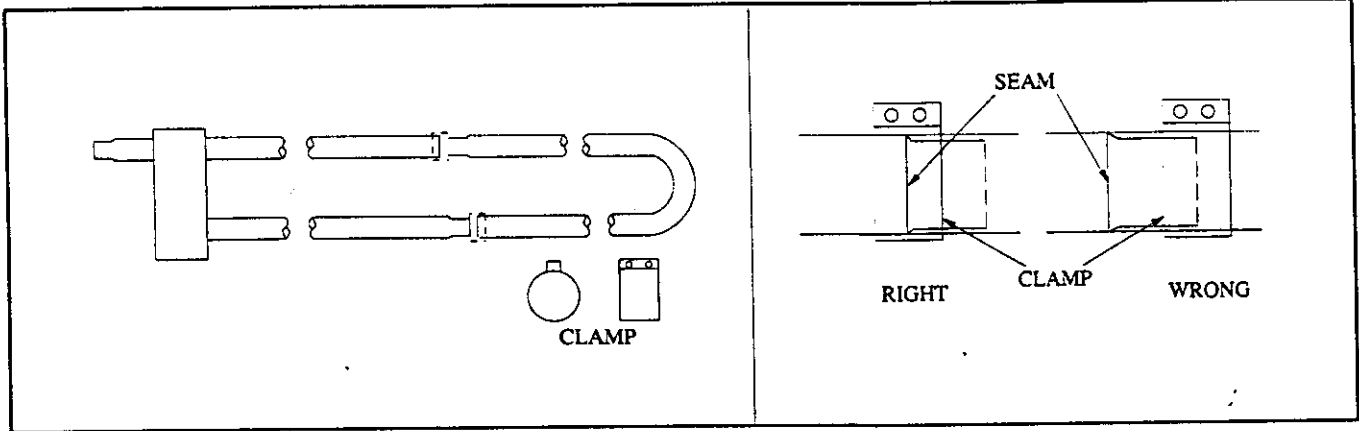

Figure 1-8
- c. Mate U-tube section to straight tubes and secure at joint with butt clamps (see Figure 1-8). Center clamps on seams.